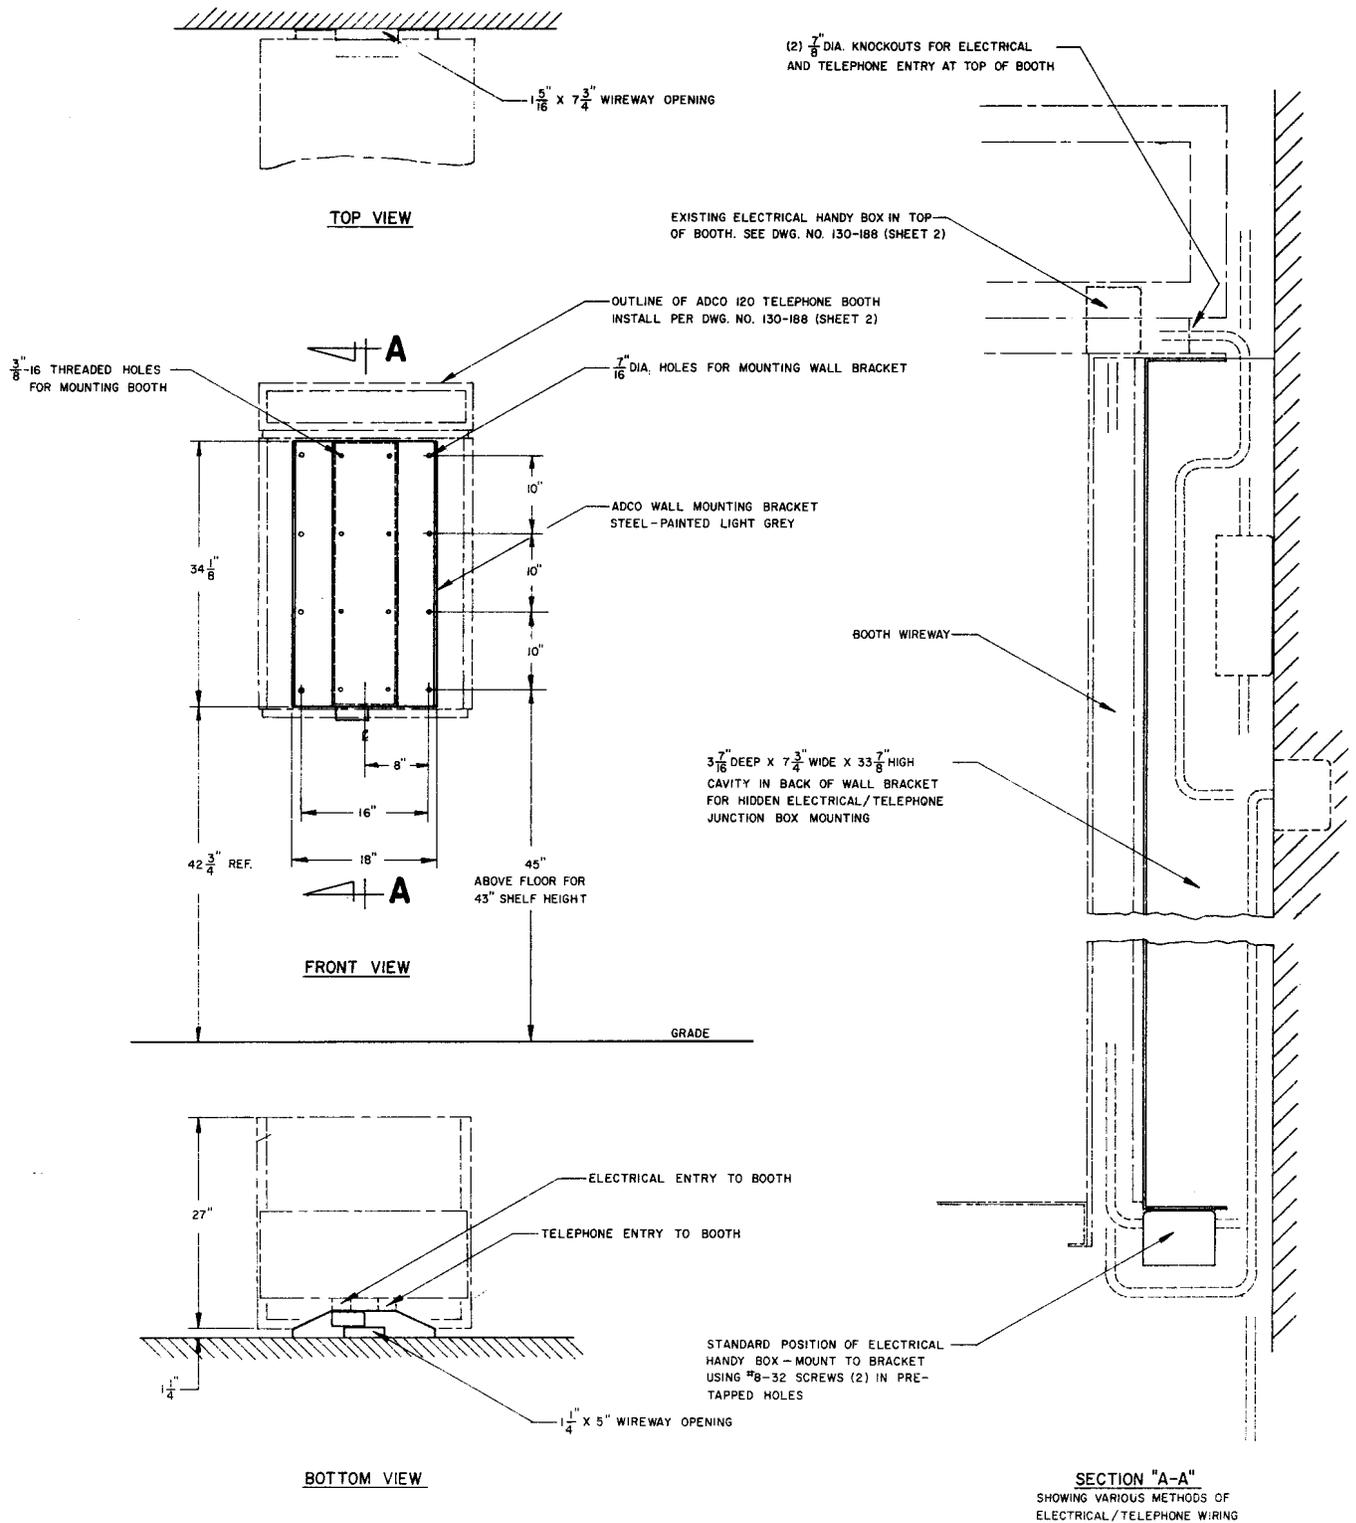

Figure 4
4.04 Install ADCO 120 booths on walls in accordance with figure 4. Attach the mounting bracket to wall surfaces with fasteners of a size and length appropriate for the mounting surface encountered.